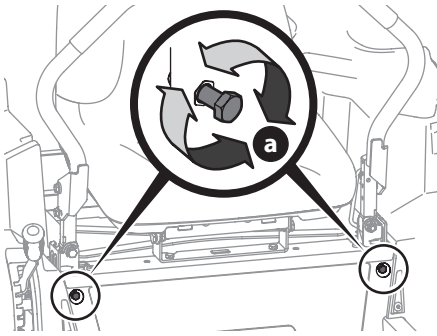

Figure 45
2. Locate the lapbar drive control lever stop adjustment bolts (a) on the front of the seat frame (Figure 45).
3. To decrease the forward speed, turn the lapbar drive control lever stop adjustment bolts (a) clockwise. To increase the forward speed, turn the lapbar drive control lever stop adjustment bolts (a) counter-clockwise. Turn the lapbar drive control lever stop adjustment bolts (a) in the necessary direction 1/4-turn at a time. After turning the lapbar drive control lever stop adjustment bolts (a), check the adjustment by driving the tractor (Figure 45).